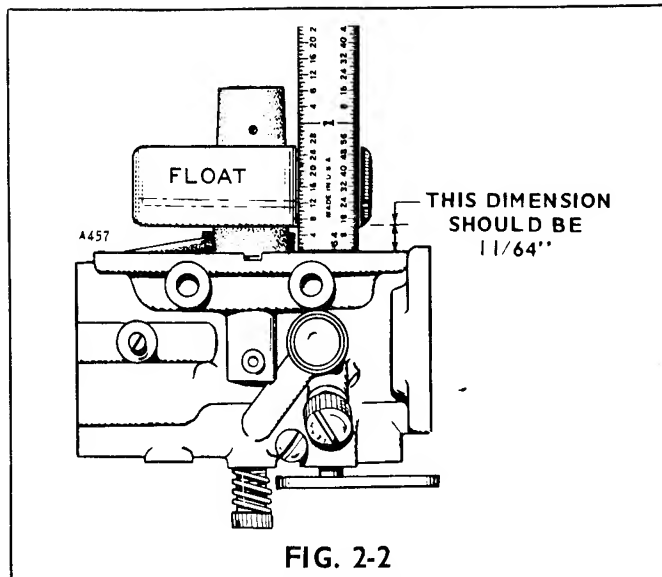

FIG. 2-2
Check the adjusting needles and nozzle for damage. If the float is loaded with fuel or damaged, replace it. The float should fit freely on its pin without binding. Invert the carburetor body and measure the float level, Fig. 2-2.
6. Check the float level with the carburetor casting inverted. See Fig. 2-2.